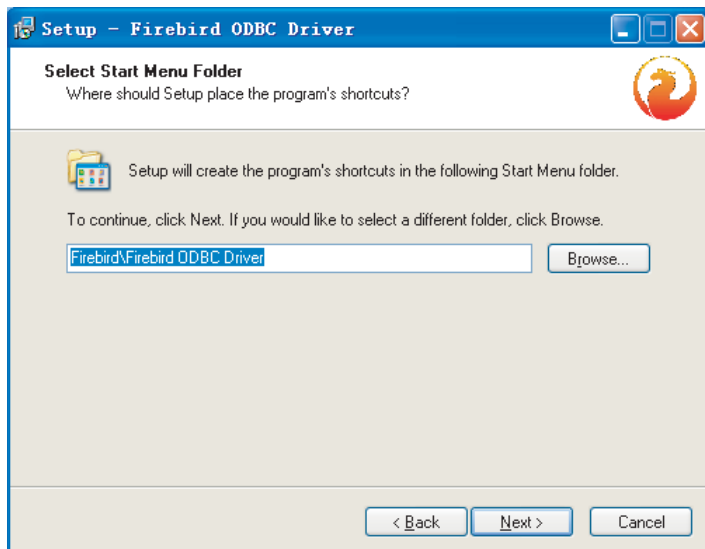

Fig. 2-20
6) Installation window as Fig. 2-20, select the shortcuts folder's name in the Initial Program, click “Next” to continue the installation: